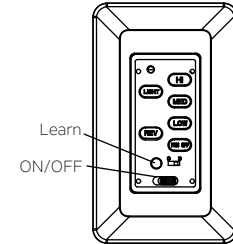

Fig. 31
Step 1. After installation is complete, press the LEARN button for 3 seconds within 30 seconds once AC power is turned on. Fan will turn on at medium speed and light (if installed) will turn on. This confirms that the SMART SYNC setting is active and ok. (Fig. 31)
Restore power to ceiling fan and test for proper operation (Fig. 31)